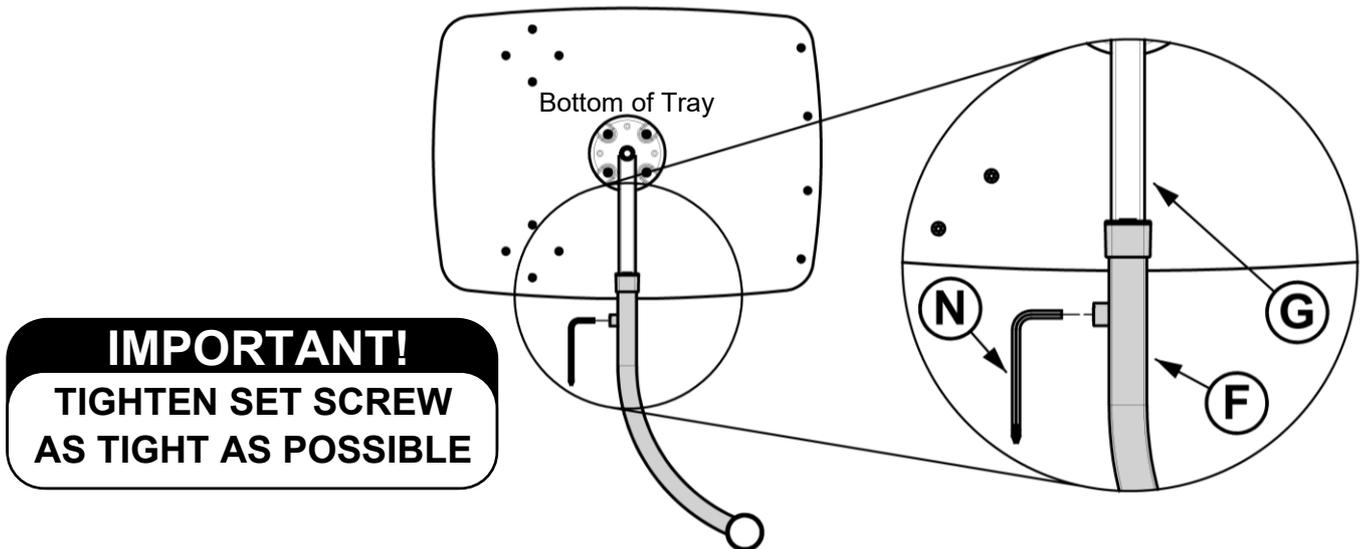

FIGURE 10
10. While keeping the MAX marking covered, tighten the Set Screw on Curved Arm **F** with Tool **N**, as shown in *FIGURE 10*.